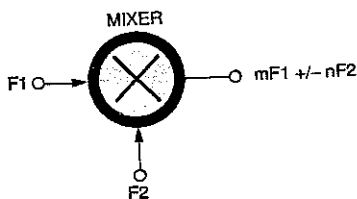

Fig. 3. In a basic mixer circuit, the sum ($F_1 + F_2$) and difference ($F_1 - F_2$) of two input frequencies appear at the output.
Frequency Translation. The process of frequency translation or conversion is called heterodyning. When two frequencies (F_1 and F_2 in Fig. 3) are mixed together in a nonlinear circuit, a collection of different frequencies will appear at the output. Those frequencies are characterized as $mF_1 + nF_2$, where n and m are integers or zero (0, 1, 2, 3...). For the sake of simplicity, we normally consider only the cases where m and n are either 0 or 1, so the output frequencies are F_1 , F_2 , $F_1 - F_2$ (difference), and $F_1 + F_2$ (sum). To make a superheterodyne receiver (the most common modern form), select either the sum ($F_1 + F_2$) or difference ($F_1 - F_2$) frequency as the receiver's intermediate frequency (IF). The NE602 contains a double-balanced mixer, so when it is properly impedance matched, it suppresses the two input frequencies (F_1 and F_2) at the output, and only produces the sum and difference frequencies.